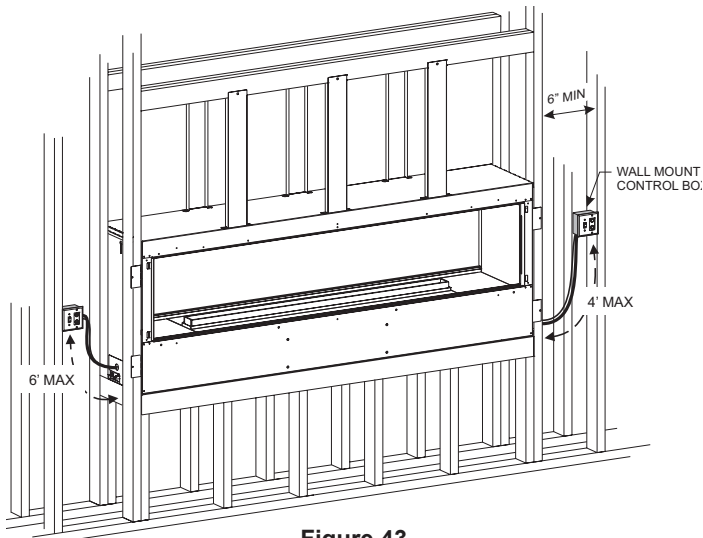

Figure 43
12. Install the wall-mounted control box within 6 feet to the left side or 4 feet from the right. **See Figure 43.**